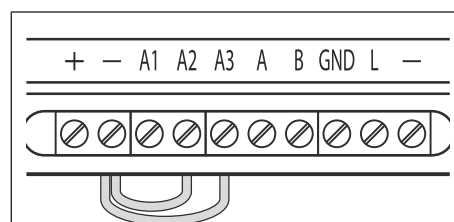

Fig. 38
2. Short out the auxiliary terminals **A2** and **A3** to the - terminal with a piece of link wire, see **Fig.38**.